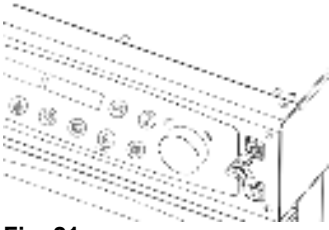

Fig. 21
2. Connect the compatible USB memory to the USB port (fig. 21).